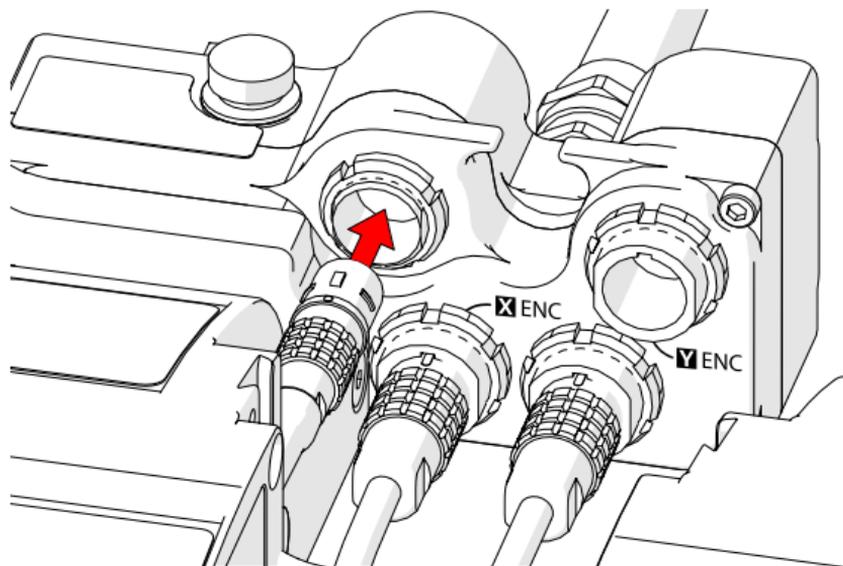

Fig. 18 - Plug-in the optical guide connector into the umbilical
5. Plug the connector of the optical guide into the 4-pin expansion connector (*Fig. 18*) on the umbilical.